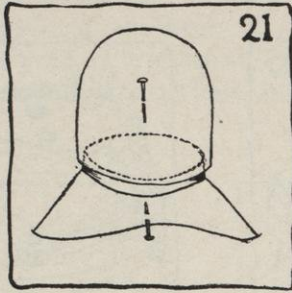
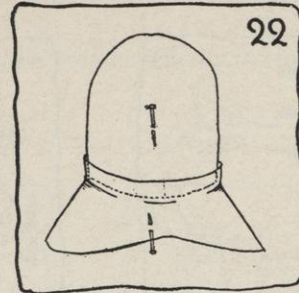

FIG. 21.
FIG. 22.
c. Match pin to pin and either set crown over headsize of brim (see Figure 21) or set brim over headsize of crown (see Figure 22), as desired, according to the model, and then pin.